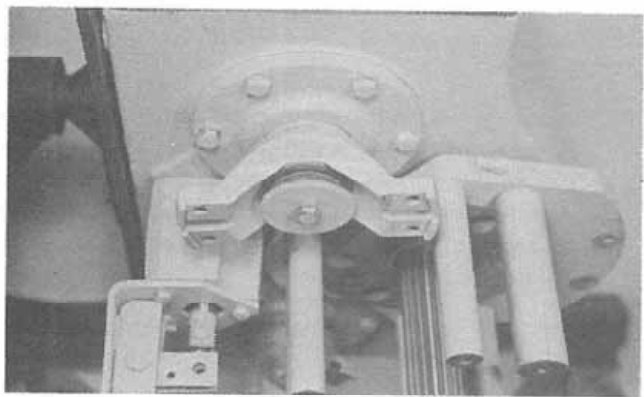

Figure 31:
24. Install the drive yoke on the input shaft splines. If servicing the Model C transfer case, secure the yoke by installing the gasket, flat washer and capscrew (Fig. 31). Torque the capscrew to 80 to 90 lb. ft. (11.06 to 12.44 Kg/M).